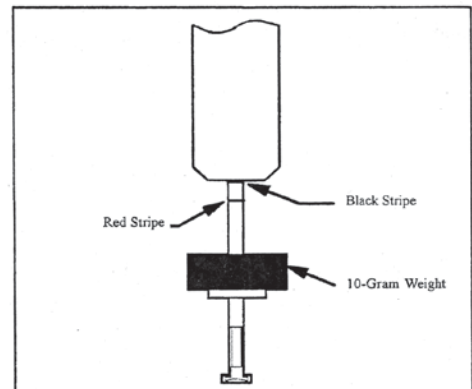

Figure 7-11, Tonography 10g. Weight
2. Gently apply the probe with the 10-gram weight to the patient's cornea and acquire data until the tonography test ends. Maintain the probe alignment between the red and black lines during this test. Refer to Figure 7-11.